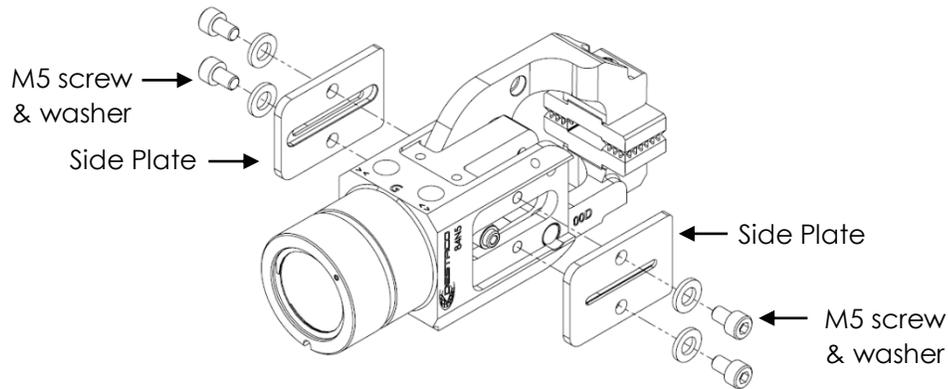

Fig.37
- Remove the two Side Plates on the body of the gripper by unscrewing the M5 screw using 4mm Allen key (see Fig.37).